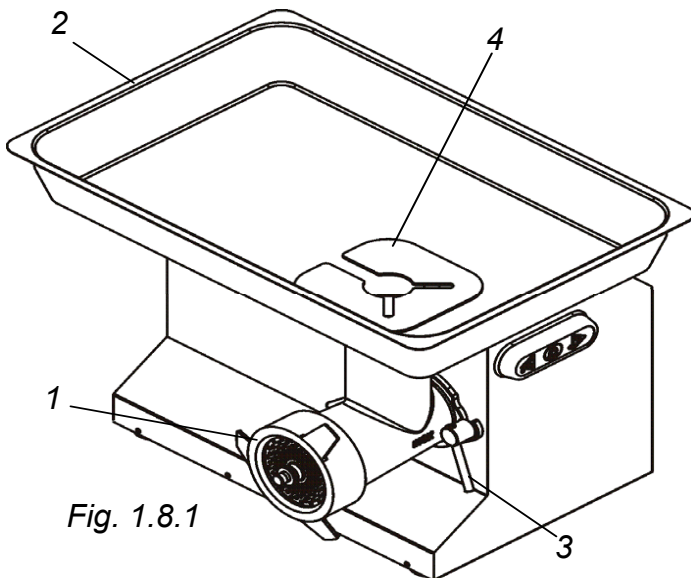

Fig. 1.8.1
4. Protective hand guard. The hopper, in the model, shows the guard "2" Fig.1.8.1 rigidly fixed, in accordance with the circular of the Ministry of Labour and Social Insurance No. 66 of 05.09.79. The smaller models do not require this guard due to the small size of the loading feed
3. Make sure that it is in the correct position, with the milled rear end of the worm perfectly slotted into the drive pin, then fasten it with the locking nuts (ref. 3 fig. 1.8.1). If it cannot be fastened: